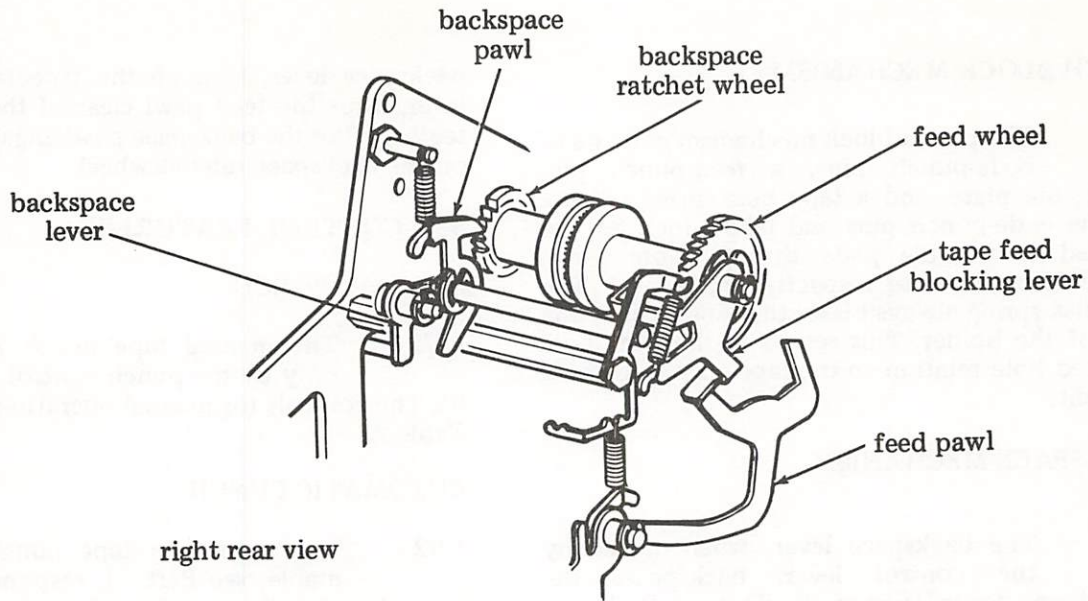

Figure 8 - Tape Backspace Mechanism
3.19 The backspace lever, when moved by the control lever, backspaces the ratchet one tooth (Figure 8). This results in the tape being backspaced one full character. The